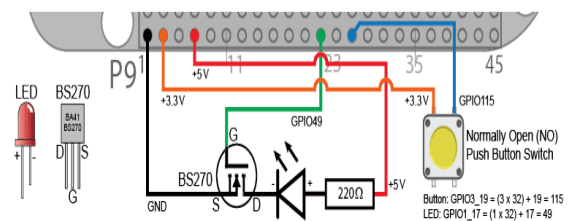

Fig. 4. First circuit test.
- 7) Testing Circuit with Debian: Installing and configuring Debian again, because angstrom doesn't worked. Designing a circuit with one led,resistence,button and transistor, as illustrated in Figure 4, but the led never turning on.